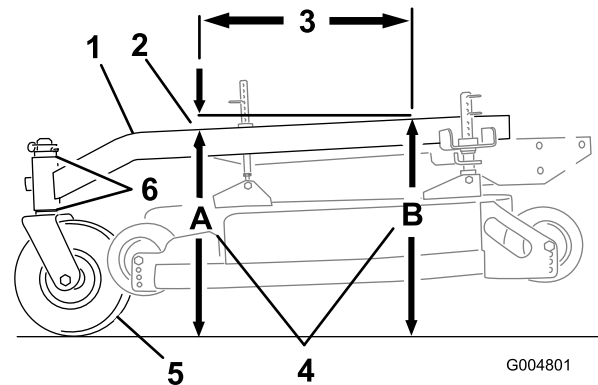

Figure 56
The carrier frame must have a pitch between 3 mm (1/8 inch) to 9 mm (3/8 inch) over the length of 61 cm (24 inches) on the carrier frame (Figure 56).
- Measure out 61 cm (24 inches) on the carrier frame (Figure 56).
- Measure carrier frame height at location **A** (Figure 56).
- Measure carrier frame height at location **B** (Figure 56).
- The height at location **A** must be an 3 mm to 10 mm (1/8 to 3/8 inch) lower than location **B** (Figure 56).
- If the carrier frame is not correct, move caster spacers to make it an 3 mm to 10 mm (1/8 to 3/8 inch) pitch (Figure 56). Move spacers from top or bottom to make the correct pitch.